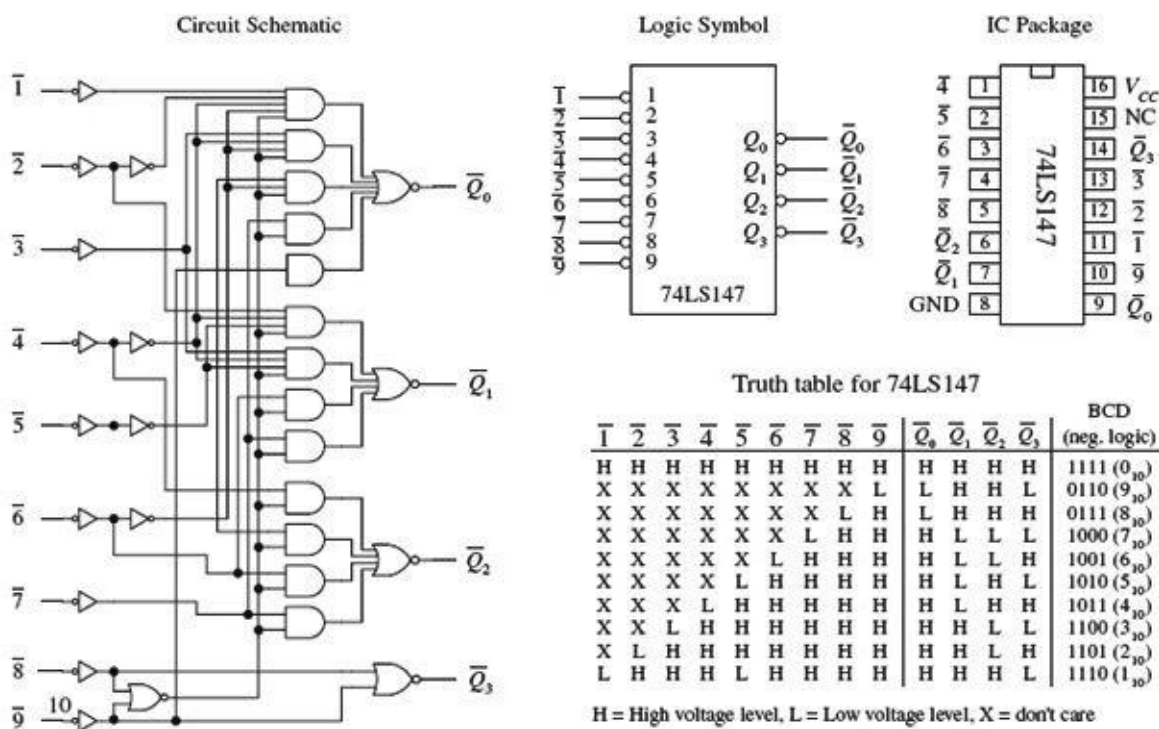

FIGURE 12.40
Figure 12.40 shows a 74LS147 decimal-to-BCD (ten-line-to-four-line) priority encoder IC. The 74LS147 provides the same basic function as the circuit shown in Fig. 12.39, but it has active-low outputs. This means that instead of getting an LLHH output when 3 is selected, as in the previous encoder, you get HLLL. The two outputs represent the same thing (3); one is expressed in positive true logic, and the other (the 74LS147) is expressed in negative true logic. If you do not like negative true logic, you can slap inverters on the outputs of the 74LS147 to get positive true logic. The choice to use positive or negative true logic really depends on what you are planning to drive. For example, negative true logic is useful when the device that you wish to drive uses active-low inputs.
and not used with the encoder in Fig. 12.39. The term *priority* is applied to the 74LS147 because this encoder is designed so that if two or more inputs are selected at the same time, it will select only the larger-order digit. For example, if 3, 5, and 8 are selected at the same time, only the 8 (negative true BCD LHHH or 0111) will be output. The truth table in Fig. 12.40 demonstrates this; look at the “don’t care” or “X” entries. With the nonpriority encoder, if two or more inputs are applied at the same time, the output will be unpredictable.